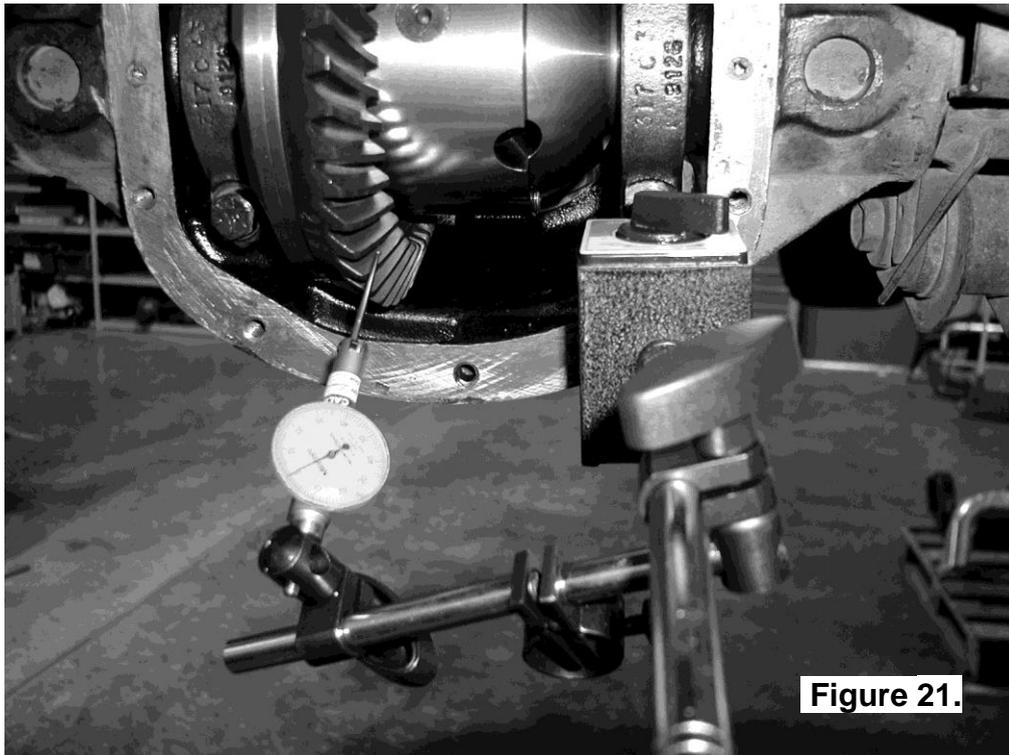

Figure 21.
- Set a depth indicator on one of the ring gear teeth as in Figure 21.